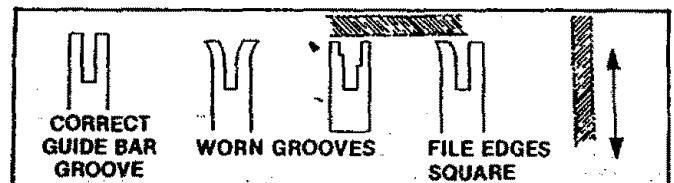

Figure 46
- d. Remove burrs by filing the side edges of the guide bar grooves square with a flat file. Figure 46.